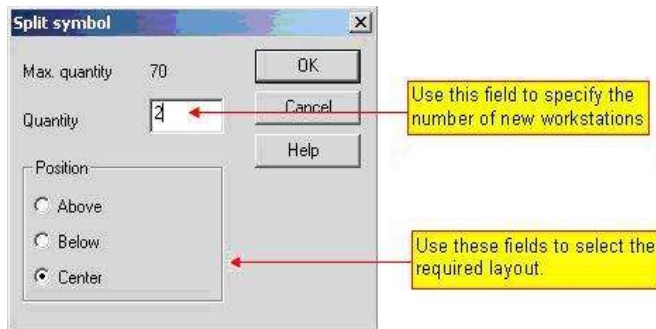

Figure 25: Split Symbol Dialog
- 4) The **Split symbol** dialog box appears. Please refer to the Figure 25.